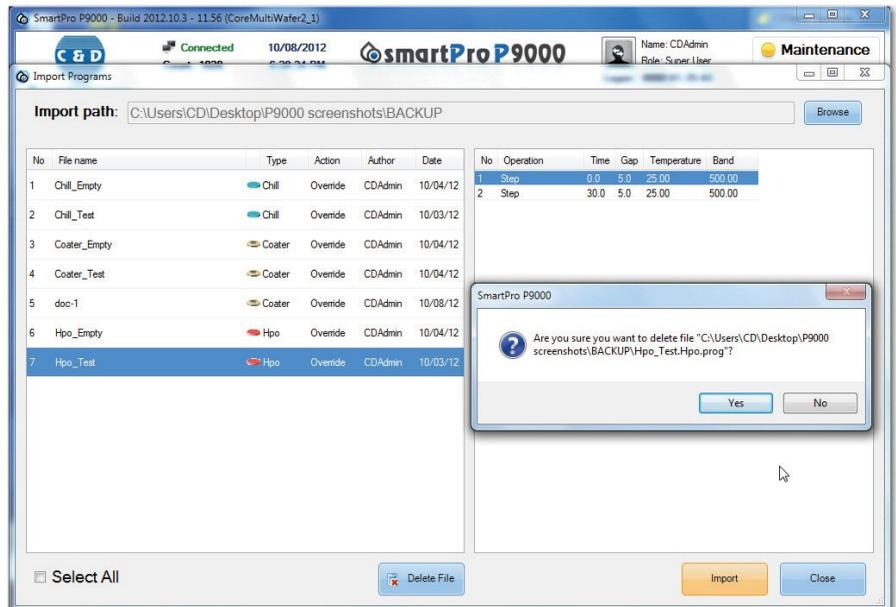

FIGURE 3-22: Deleting programs before importing
*You can remove programs from the list of programs to be imported by highlighting them, one at a time, and clicking **Delete File**. See Figure 3-22.*